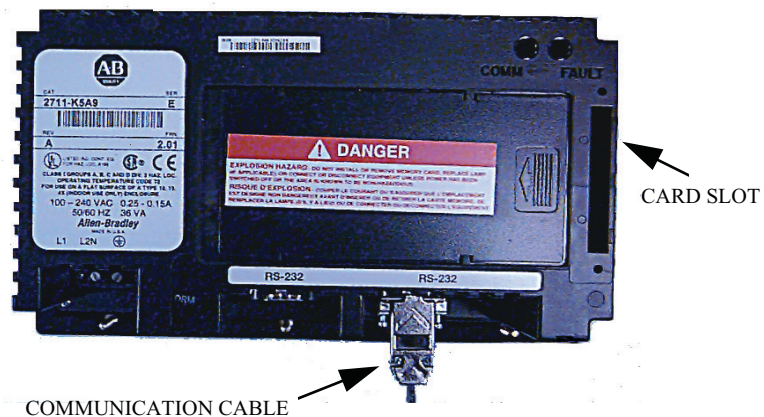

Figure 250 - Rear view of operator interface
1. Locate the vertical card slot on the back of the operator interface (Figure 250).